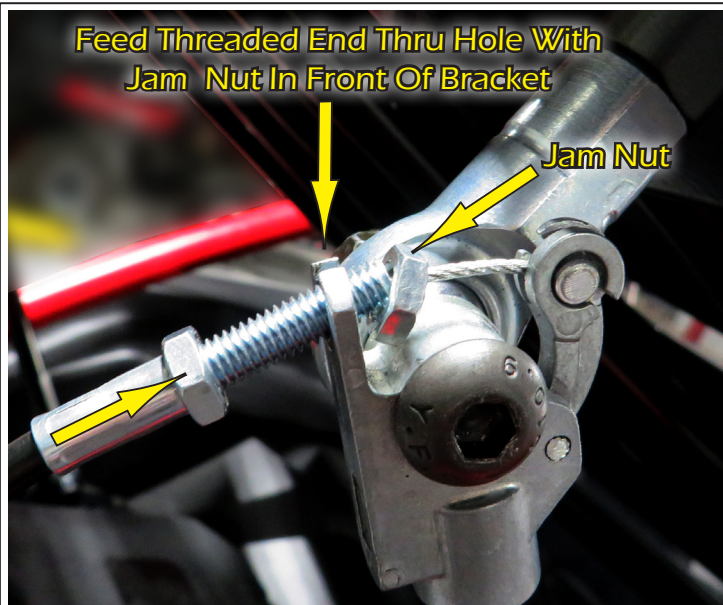
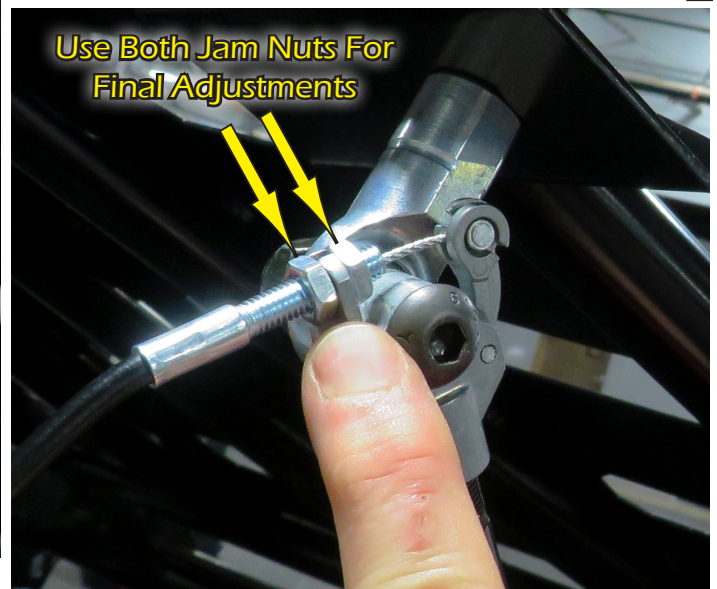

FIG.22A
FIG.22B
22. Now spin off the front **Jam Nut** and pull the cable casing back so you can feed the threaded end back thru the hole in the bracket with the jam nut in front as shown in **Fig.22A**. You will need to use both jam nuts to make your final adjustment and desired tension. See **Fig.22b**. Same for both sides.